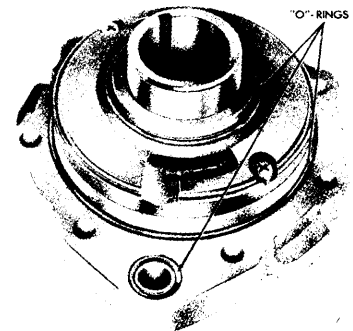

FIG. 34—O-Ring Installation G1213
6. Place the pressure plate on the dowel pins. Install and tighten the screws to 20 in-lbs torque. Install the O-ring on the pressure plate hub. Install O-rings in the groove at the oil bypass hole and around the cam ring (Fig. 34).